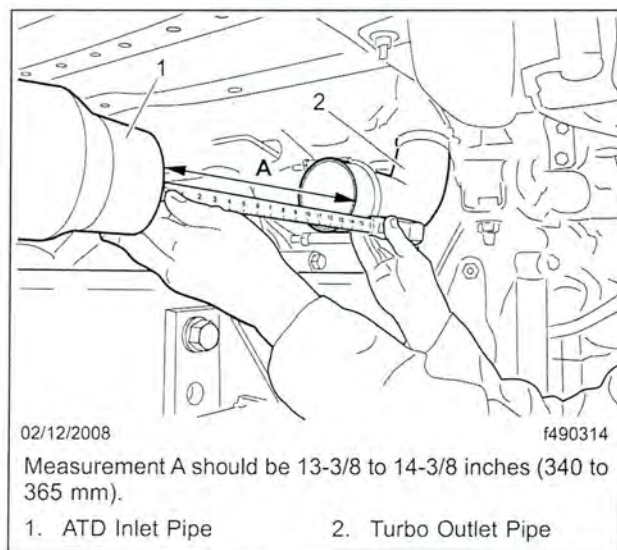

Fig. 3, Measuring Between the Pipes
4. Once the pipes are aligned and concentric, measure the distance between the ATD inlet pipe and turbo outlet pipe. See **Fig. 3**.